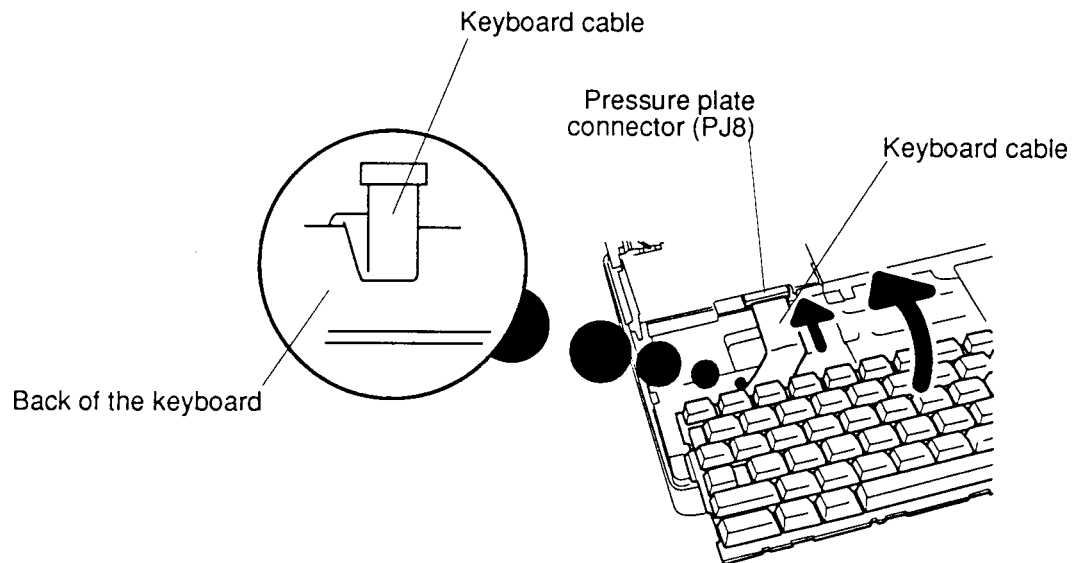

*Figure 4-14 Removing the keyboard*
To remove the T4700CS/T4700CT/T4800CT's keyboard, follow the steps below and refer to figure 4-14.
4. Disconnect the **keyboard cable** from **pressure plate connector (PJ8)** on the upper system board (figure 4-14).
To install the T4700CS/T4700CT/T4800CT's keyboard, follow the steps below and refer to figures 4-14 and 4-15.
1. Connect the **keyboard cable** to **pressure plate connector (PJ8)** on the upper system board (figure 4-14).